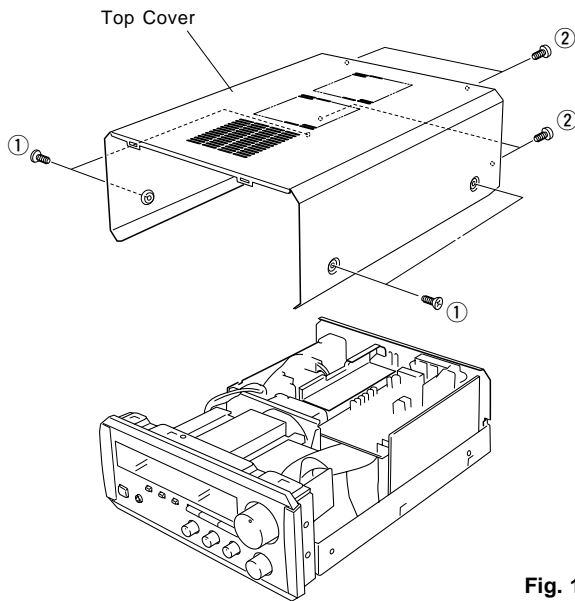

Fig. 1
- ① P. C. B. MAIN (6)
- ② P. C. B. MAIN (1)
- ③ P. C. B. TUNER
- ④ P. C. B. MAIN (2)
- ⑤ P. C. B. OPERATION
- ⑥ POWER TRANSFORMER
- ⑦ P. C. B. MAIN (4)
- ⑧ P. C. B. MAIN (3)
- a. Remove 4 screws (①) and 4 screws (②) in Fig. 1.